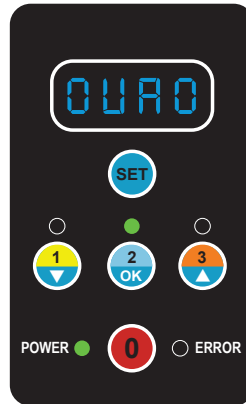

Figure 8 - OVRD Shown on Display
1. Enter programming mode by pressing and holding the  button for at least three (3) seconds when the pump is in the stopped (OFF) position.
2. Use the  and  buttons to select OVRD. (See Figure 8). Press the  button to enter the override menu.